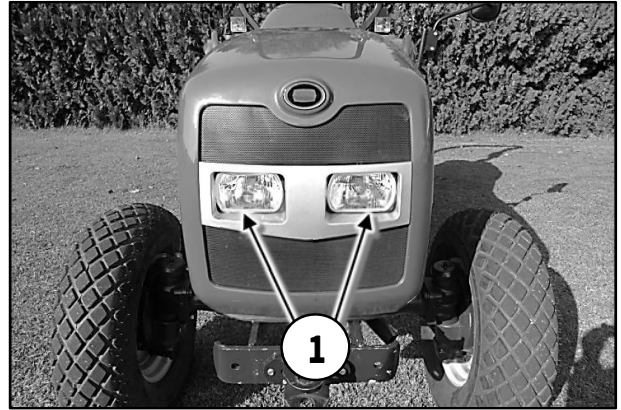

Figure 2-13
- Headlights (1) in Figure 2-13.